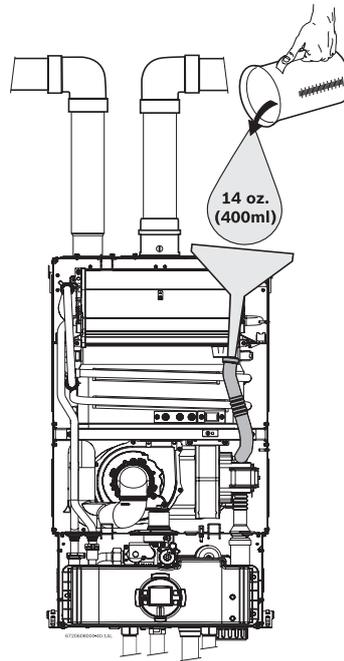

Fig. 20 Filling the condensate trap after installation
- ▶ Fill the condensate trap by pouring approx.14 oz. (400ml) of water into the top of the drain tube. To avoid damage to the appliance use a funnel in this operation, see Fig. 20, page 14.